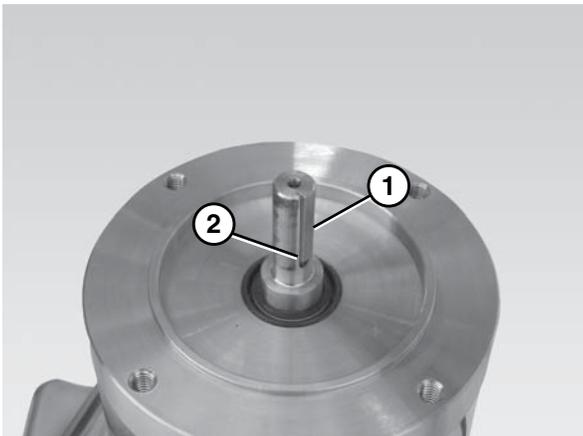

**Figure 22**
6. Detach the motor (Figure 22, item 1) from the gear reducer (Figure 22, item 2).